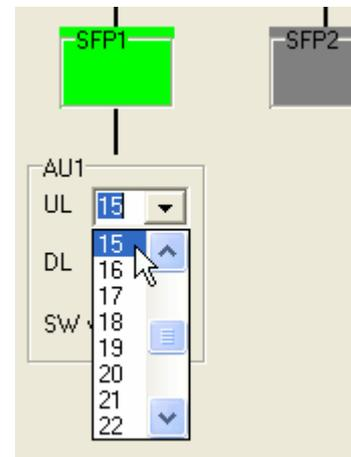

Figure 4-6: Changing the AU attenuators.
The downlink (DL) and uplink (UL) attenuators for the AU can be selected using the drop down lists. The range of permitted values is 5 – 31 dB for all attenuators in steps of 1 dB (Figure 4-6).